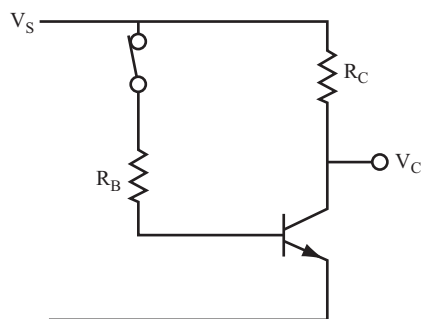

FIGURE 4.1
**1** Start by examining how to turn a transistor ON by using the simple circuit shown in Figure 4.1. In Chapter 3,  $R_B$  was given, and you had to find the value of collector current and voltages. Now, do the reverse. Start with the current through  $R_C$ , and find the value of  $R_B$  that turns the transistor ON and permits the collector current to flow.